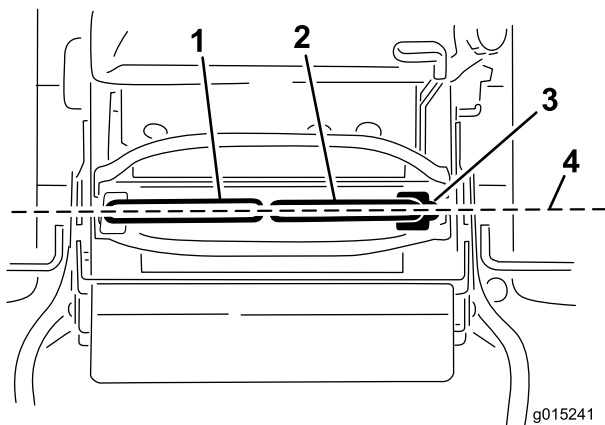

Figure 78
Important: Ensure the tracking of the mower is correct after adjusting the motion control levers. Adjusting the tracking and aligning the motion control levers front to back is the same procedure (Figure 78).
1. After the horizontal alignment is finished, check the front to back alignment (Figure 78).